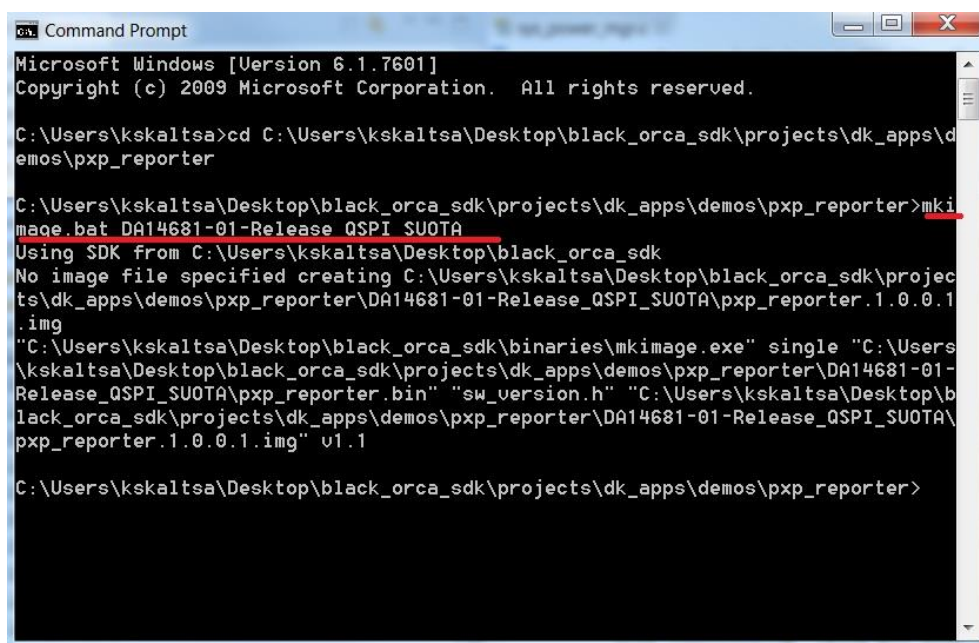

Figure 60: Creating image
- Create a SUOTA image. To create the image, open a command prompt, navigate to `<sdk_root_directory>/projects/dk_apps/demos/pxp_reporter` folder and run the following command (Figure 60) on Windows: